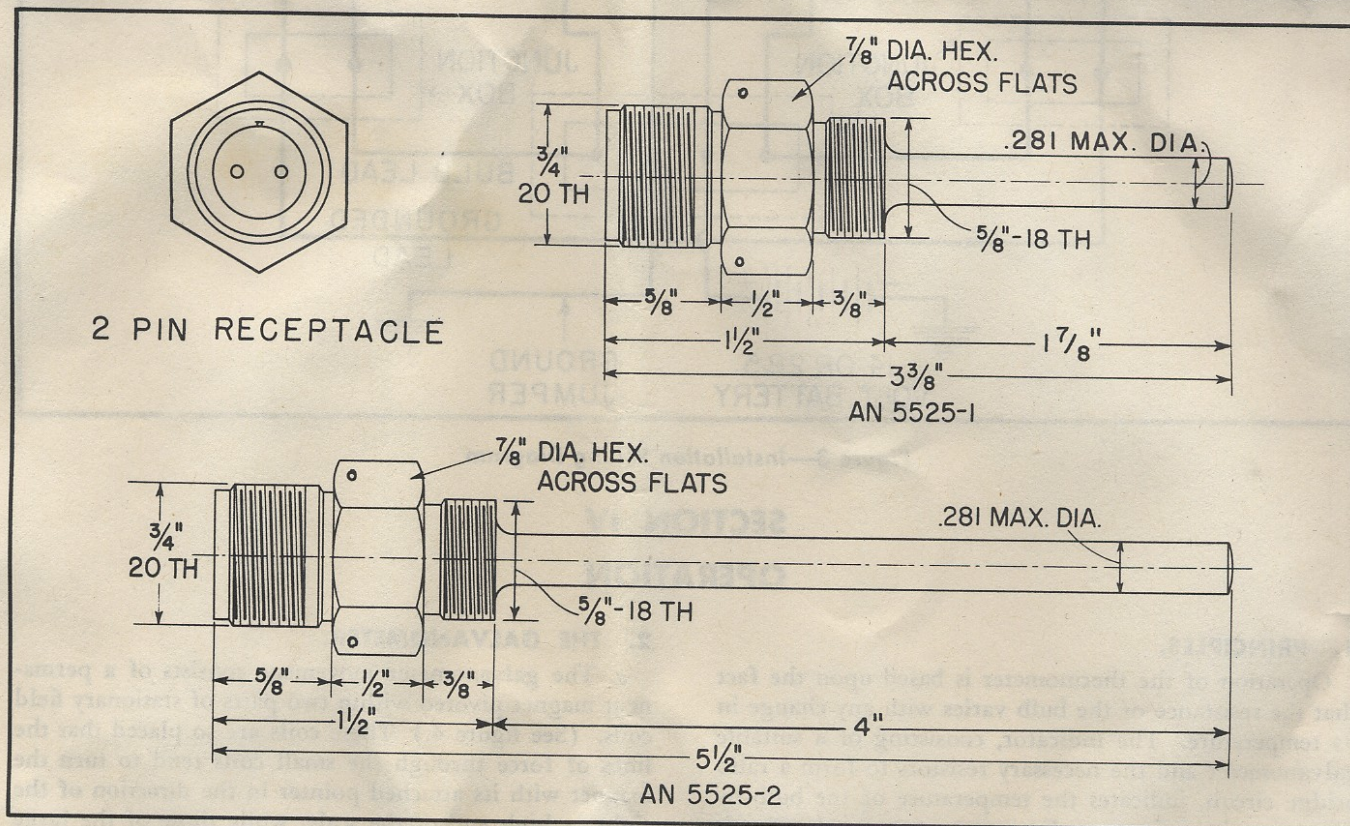

Figure 2—Bulb Mounting Dimensions
*b. MOUNTING HOLE.*—A hole tapped with a 5/8-18 N.F.-3 thread must be provided in the specified location which must allow the necessary clearance for mounting the bulb. (See figure 2.)